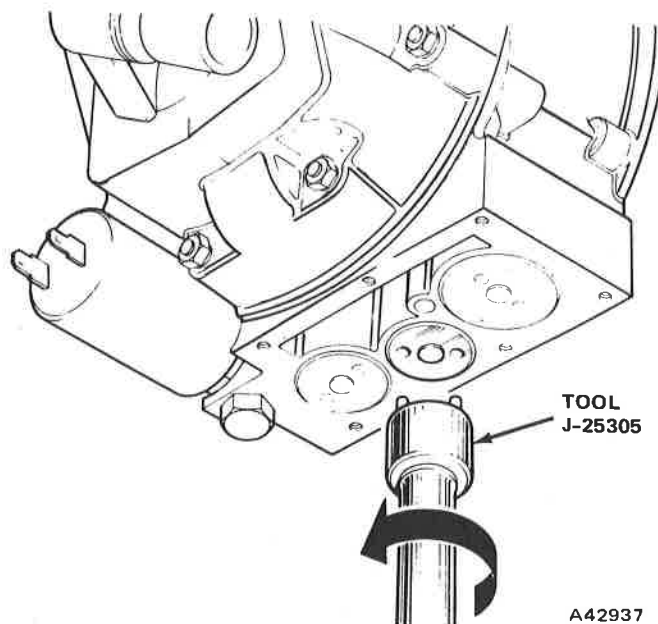
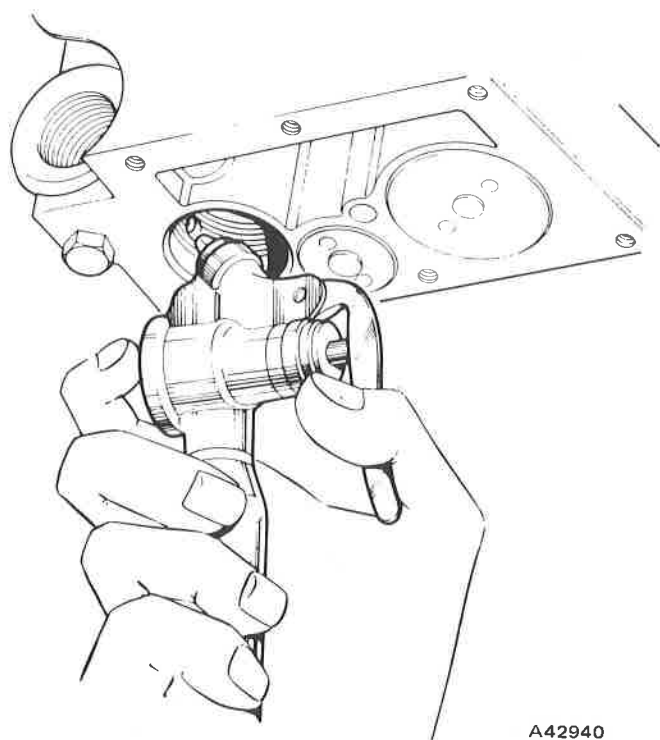

Fig. 6-37 Main Case Plugs Removal and Installation
Fig. 6-40 Cleaning Control Orifice
- (1) Raise car on hoist.
- (2) Remove oil pan, oil pan gasket, and oil pan filter.
- (3) Remove relief valve piston plug with Spanner Tool J-25305 (fig. 6-37).
(1) Clean control orifice, located in relief valve bore of case, with compressed air. Do not clean orifice with wire. This could impair calibration of the orifice (fig. 6-40).
(2) Install new O-rings on relief valve piston plug, relief valve sleeve, and relief valve body.
(3) Coat relief valve body and relief valve sleeve with transmission lubricant, then insert valve body in case bore, followed by sleeve. Push firmly on sleeve to seat both sleeve and valve body.
(4) Assemble relief valve and spring assembly, residual pressure spring, and relief valve piston. Coat all parts with lubricant and insert assembled parts in relief valve sleeve (fig. 6-37).
(5) Install relief valve piston plug in case bore with Tool J-25305. Tighten plug to 14 to 18 foot-pounds torque.
(6) Install oil pan filter, oil pan gasket and oil pan. Tighten oil pan bolts to 6 foot-pounds torque.
(7) Add lubricant to transmission, as required, and
The control orifice is located in the solenoid-to-relief valve oil feed passage in the main case (fig. 6-40). To gain access to the control orifice, the relief valve and solenoid valve must be removed as outlined in Relief Valve Assembly and Solenoid Valve under Service Procedures—In Car.
- (3) Remove pump plug, using Spanner Tool J-25305, and remove non-return valve seat spring and check ball (fig. 6-37).